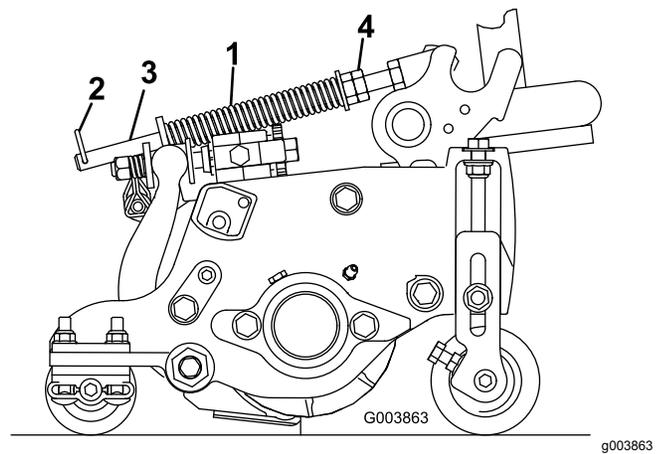

Figure 15
2. Tighten the hex nuts on the front end of the spring rod until the compressed length of the spring is 15.9 cm (6.25 inches) (Figure 15).
The turf-compensation spring (Figure 15) transfers weight from the front to the rear roller. This helps to reduce a wave pattern in the turf, also known as marcelling or bobbing.
1. Make sure that the hairpin cotter is installed in the rear hole in the spring rod (Figure 15).